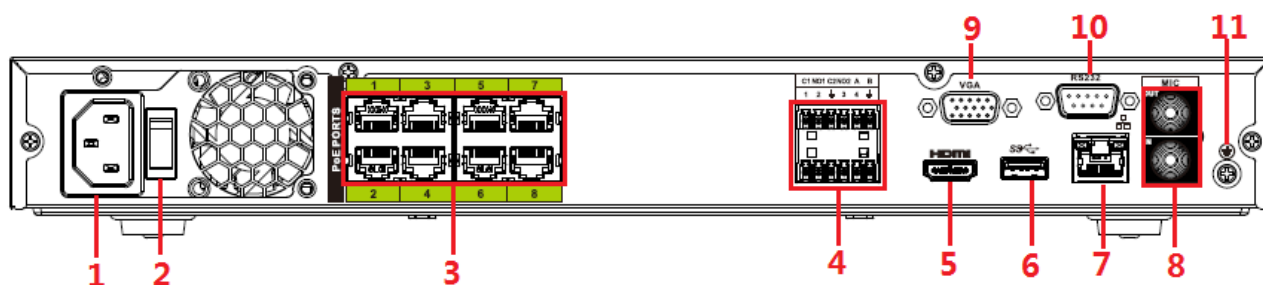

Figure 2-8
- Figure 2-8 takes NVR5216-8P-I series as examples.